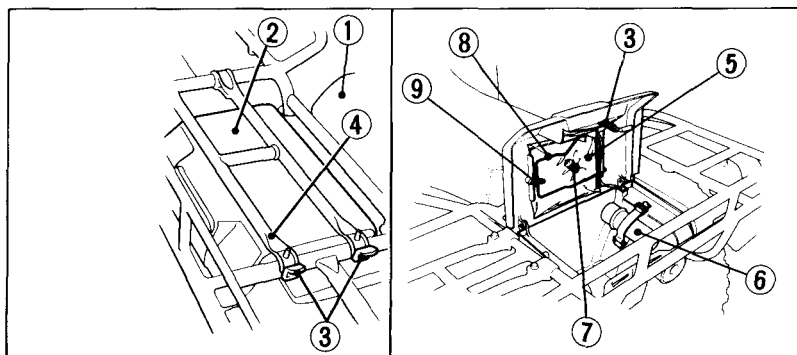

Fig. 2-23
The storage compartment (Fig. 2-23) is behind the seat. To open the compartment, unhook the rubber straps (3) and lift the hinged section of the rear rack (4). The Owner's Manual (5), tool kit (6), and air pressure gauge (7) should be stored in the storage compartment.